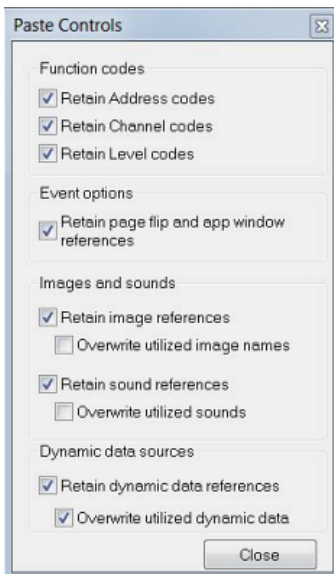

FIG. 74 Paste Controls dialog
- The attributes of the copied (or cut) buttons are retained, according to the selections made in the *Paste Controls* dialog (FIG. 74 on page 67).
Select **Button > Paste Controls** to open the *Paste Controls* dialog (FIG. 74). Use the options in this dialog to specify exactly which elements of copied buttons you want to retain when they are pasted into a project. You can also select to overwrite image function codes, event options, images/sounds and (in the case of Listview buttons) dynamic data sources, in case you are pasting over existing buttons that have their own image and sound associations. By default, all "overwrite" options are disabled.